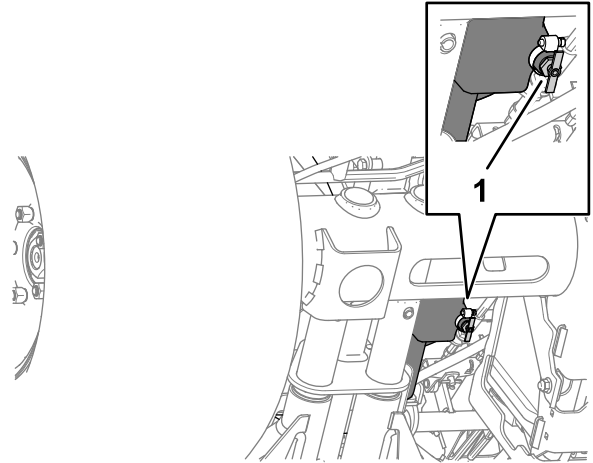

Figure 85
- Align a drain pan under the fuel tank-drain valve (Figure 85).